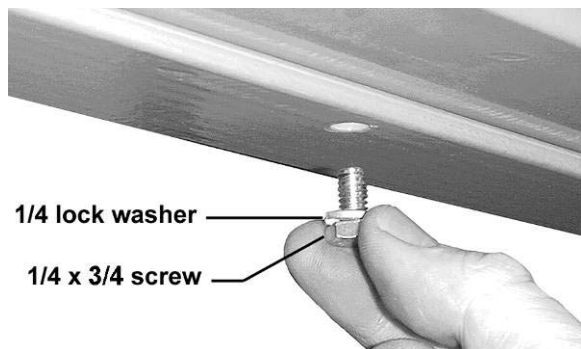

Figure 13
2. Fasten the *guide tube* to the rail from beneath, with eight 1/4-20 x 3/4 *hex cap screws* and eight 1/4 *lock washers* (Figure 13). Finger-tighten only.